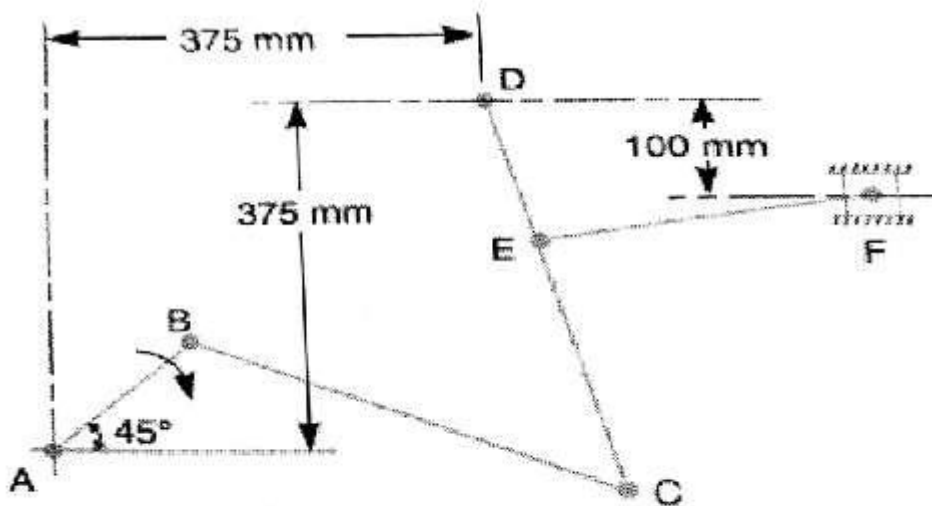

Fig.1
- Q.2 The mechanism, as shown in Fig.1 has the dimensions of various links as follows : $AB = DE = 150$ mm, $BC = CD = 450$ mm; $EF = 375$ mm. The crank AB makes an angle of 45° with the horizontal and rotates about A in the clockwise direction at a uniform speed of 120 r.p.m. The lever DC oscillates about the fixed point D , which is connected to AB by the coupler BC . The block F moves in the horizontal guides, being driven by the link EF . 15